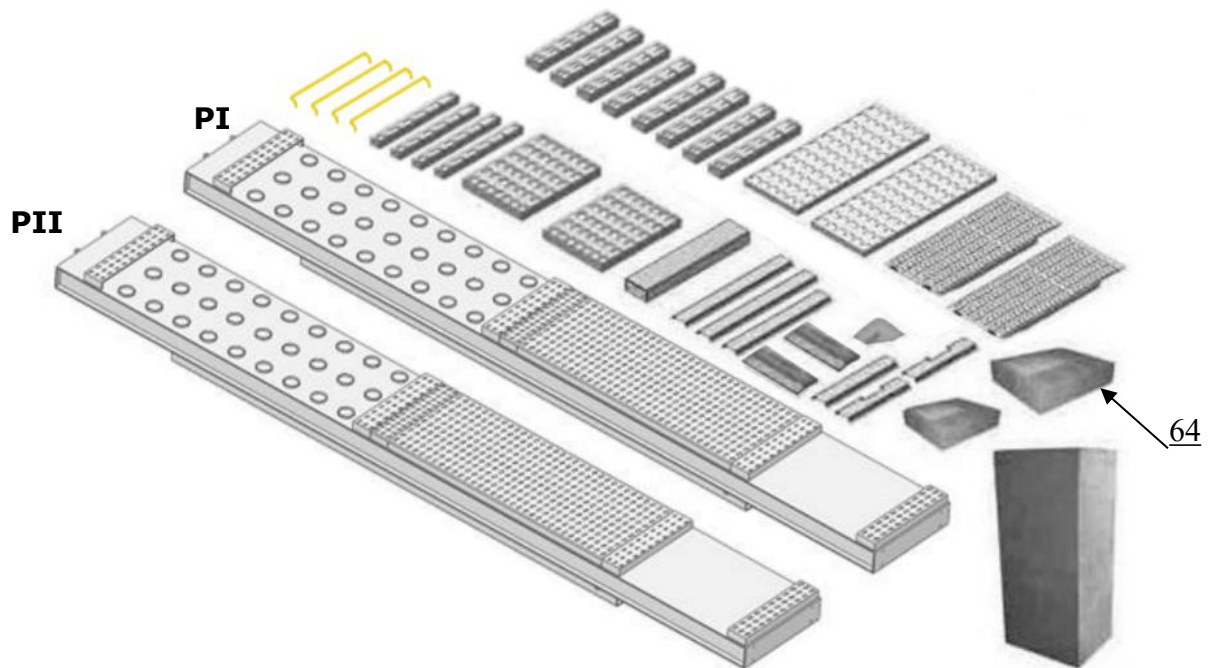

Fig. 8
2.1 Parts for lift of on surface installation (**See Fig.8**)